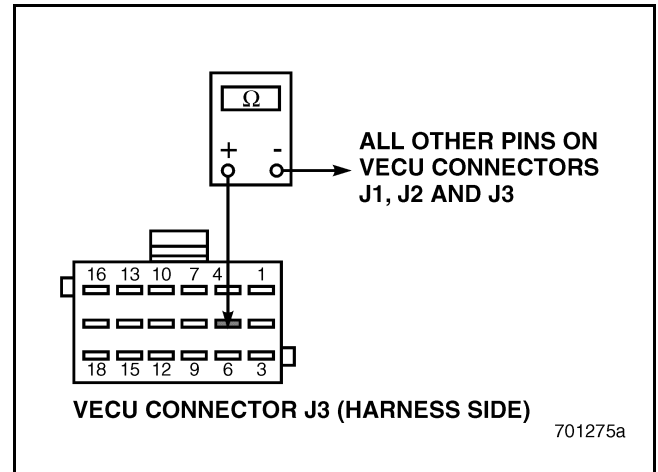

Figure 551
2. Disconnect the Throttle Position (TP) Sensor harness connector.
4. Check for continuity between VECU connector J3 pin 5 and all other pins on VECU connectors J1, J2 and J3 (see Figure 551).